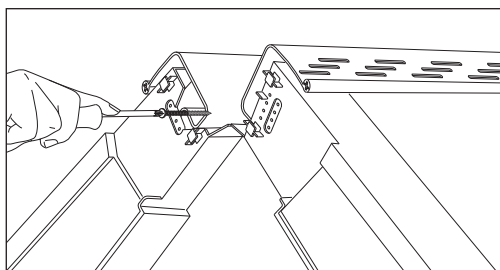

Fig 6 Screw verge units at apex of verge
- 10 At apex of roof, where battens are located, retain top course dry verge unit by securing a 30mm long pozidrive head screw (supplied) into second series of holes in verge unit and locate it behind nib section of dry ridge batten (Fig 6).